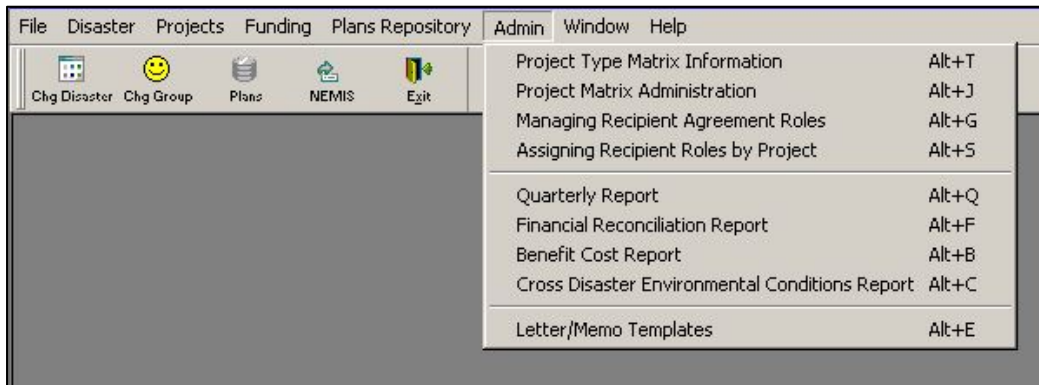

Figure 14-12: Mitigation >Admin >Financial Reconciliation Report
- a. On the MITIGATION menu, click on Admin > Financial Reconciliation Report (Figure 14-12).